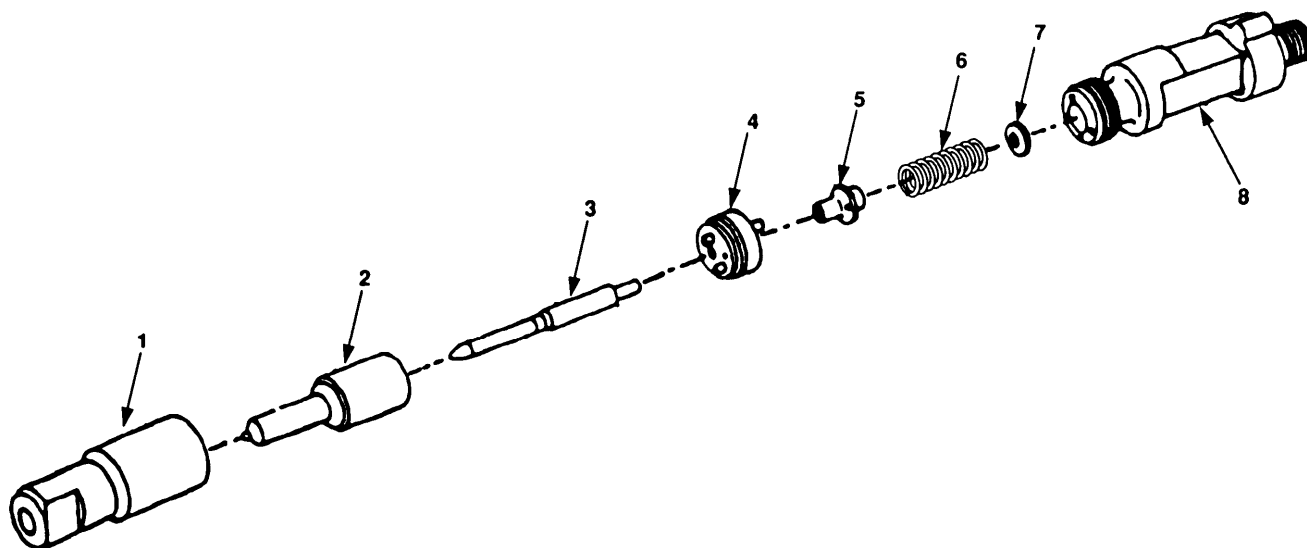

Figure 5-7. Injection Nozzle Maintenance.
- Unscrew cap (figure 5-7, 1) and remove body (2), needle (3), and intermediate piece (4).
- b. Remove plunger (5), spring (6), shims (7) from holder (8).